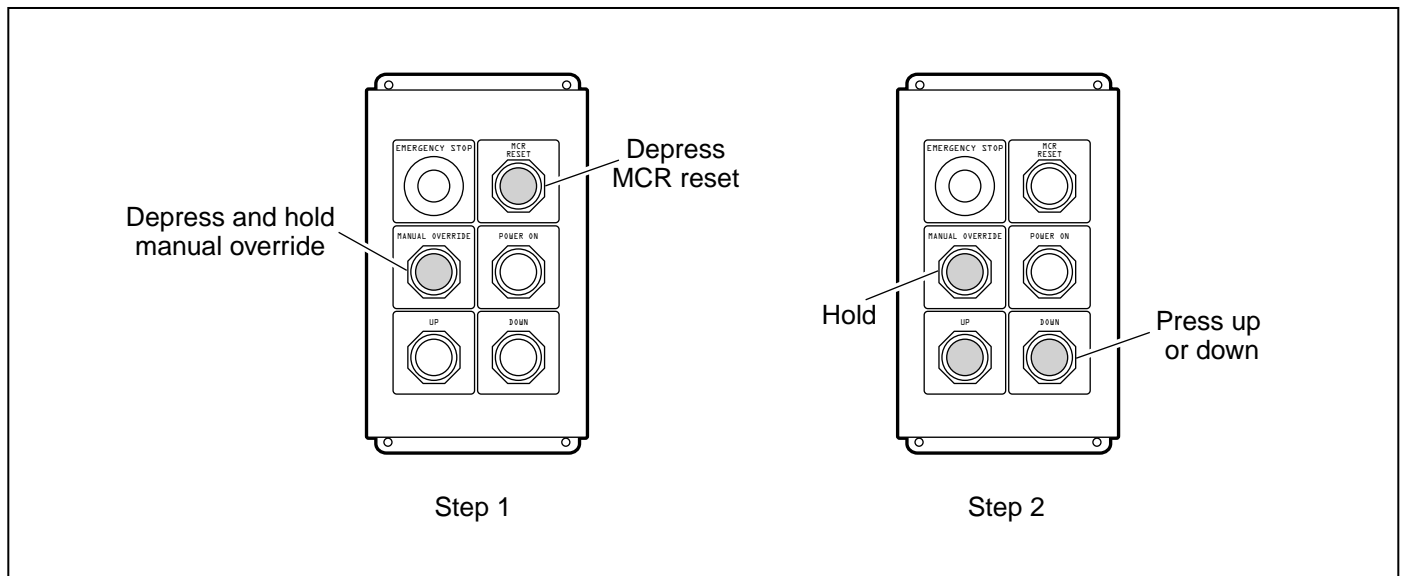

Figure 2.6 Resetting the MCR
1. Press and hold manual override. Refer to Figure 2.6, Step 1.
3. Press up or down to move the Skiploader bucket and clear the tripped limit switch. Refer to Figure 2.6, Step 2.